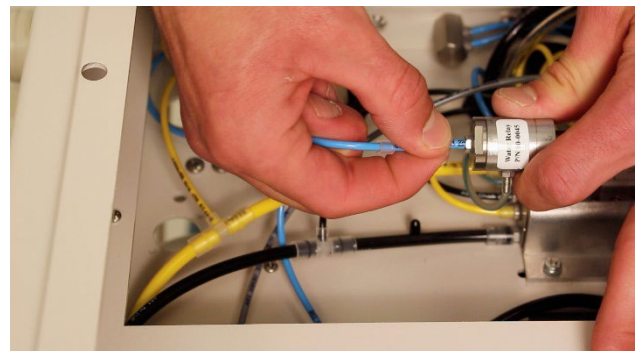

Fig. 5
- 6 Place sleeves over tubing, slide tubing fully onto new barbs, and secure sleeves with sleeve tool. (Fig. 5)